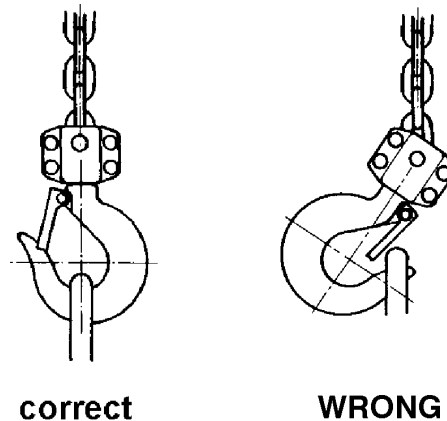

Figure 3
3. Place ropes or chain in the center of the bottom hook, making sure the safety latch is secure. Never load the hook in front of the safety latch. See Figure 3.